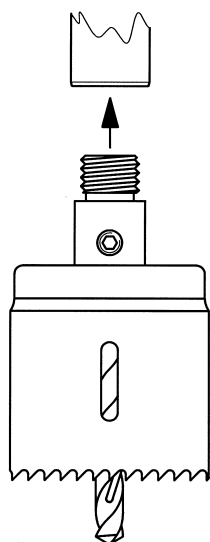

Figure 36
- Set up the arbor hole saws with the pilot drill in the chuckshaft. Screw the hole saw matching the threaded outlet of the branch connection into the arbor hole saw. See *Figure 36*.